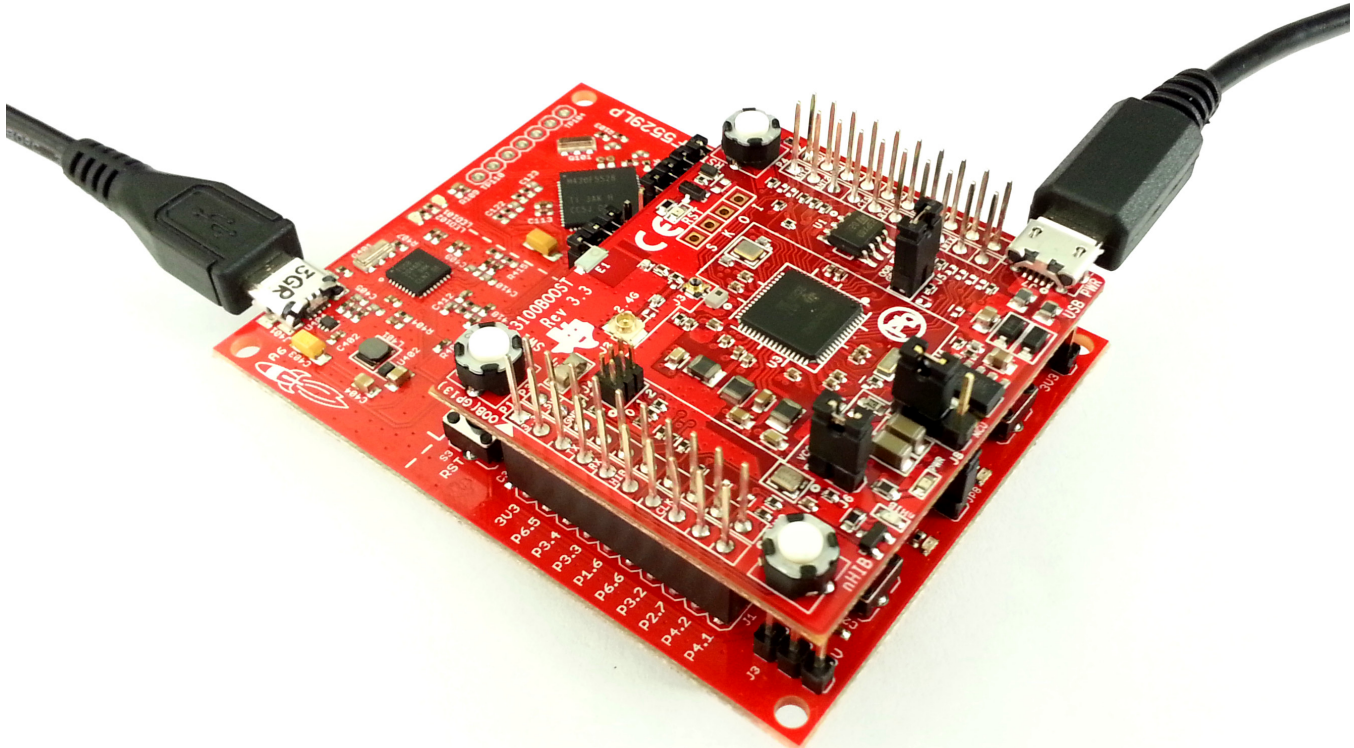

Figure 14. Connect the CC3100BOOST to the MSP430F5529 Launchpad
3. Connect the CC3100BOOST to the MSP430F5529 Launchpad as shown in Figure 14.